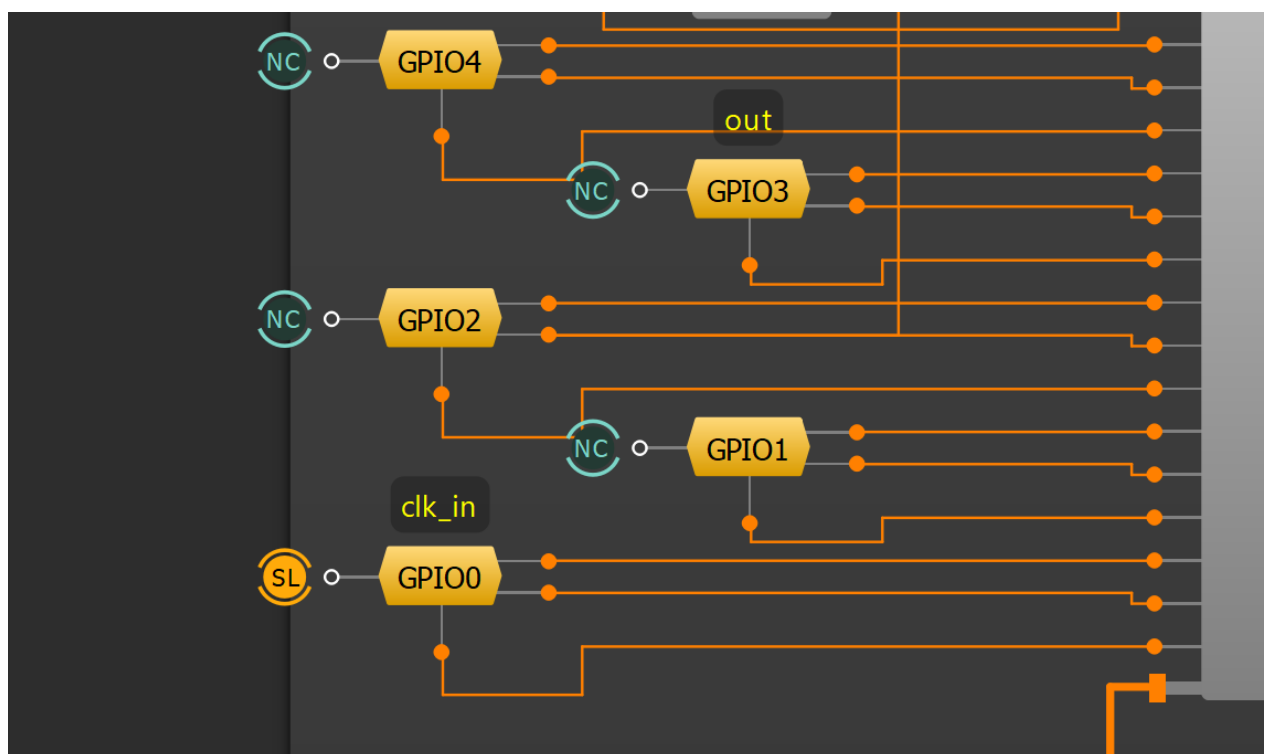

Figure 3: GPIO Connection
8. Connect the Development Board and attach it to Adaptor Board with the SLG47910 part in the socket on it. Click on the Debug button on the ForgeFPGA Workshop studio and select Emulation (Figure 3).